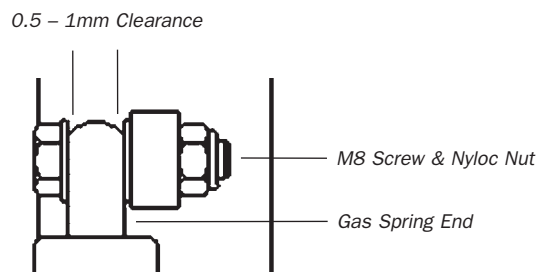

Figure 9.6.4.11 Gas Spring Alignment Clearance
61. Grip the Brake Cable Cable End with pliers and tighten the M4 Nyloc Nut until it contacts the edges of the Brake Arms. If required, prise the Brake Arms apart and activate Brake Lever until the M4 Nyloc Nut “jumps” in between the Brake Arms and locates against the Brake Arm Clevis Pin. See Figure 9.6.4.10.